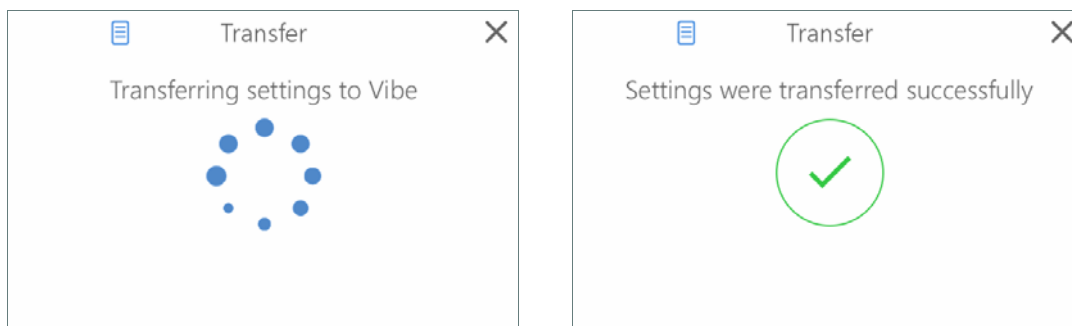

FIG. 48 Transfer - Transferring settings to Acendo Vibe
4. The current settings (as currently configured in the Settings application) are sent to the Acendo Vibe. The system indicates the progress of this transfer, and indicates when the transfer is complete (FIG. 48):